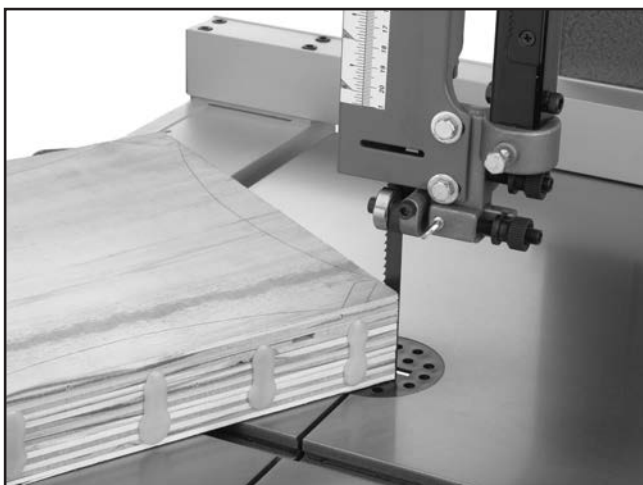

Figure 43. Typical stacked cut.
5. Cut the stack of pieces as though you were cutting a single piece. Follow your layout line with the blade kerf on the waste side of your line, as shown in **Figure 43**.